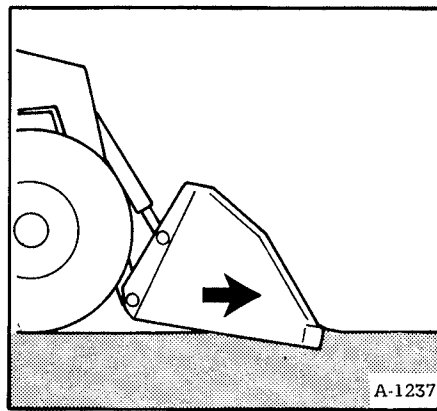

Fig. 16 Starting To Dig
2. Drive forward to penetrate the ground. Bring the boom down as you drive forward (Figure 16).